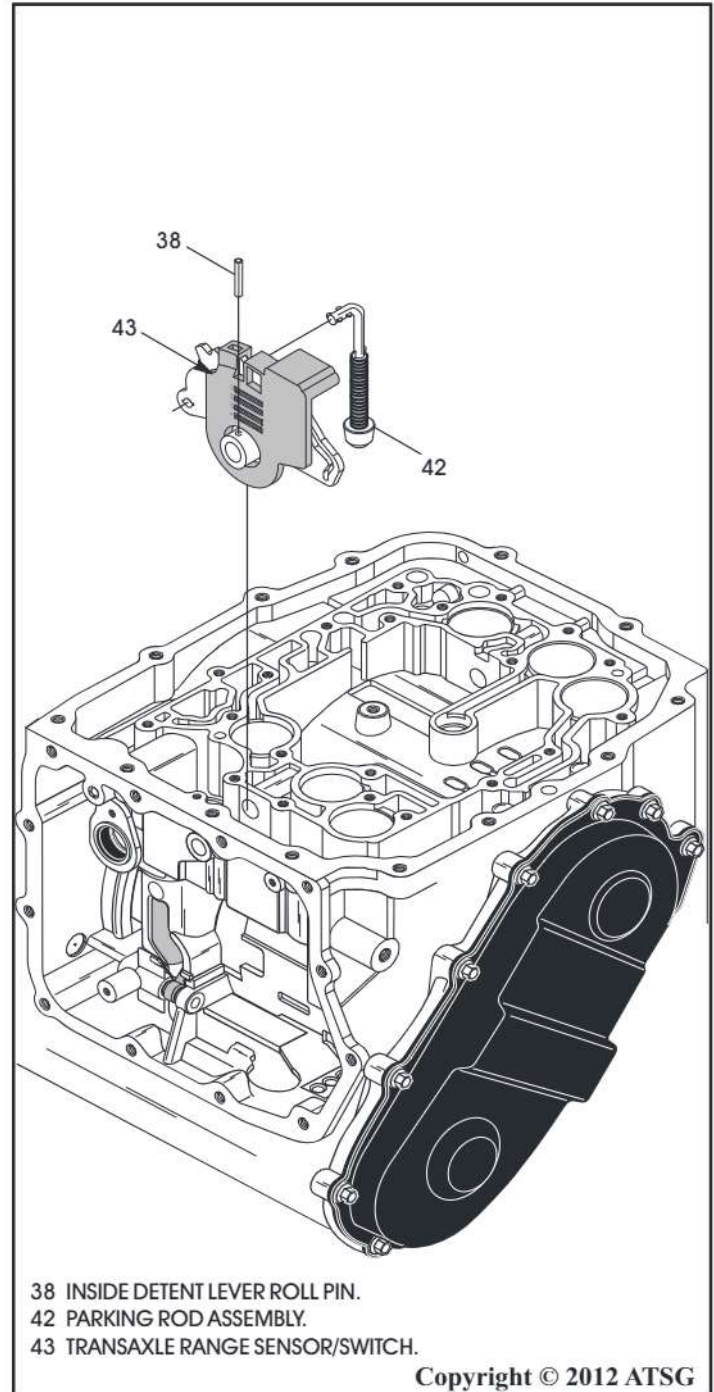

Figure 269
71. Install the parking rod into inside detent lever, as shown in Figure 269.
72. Install the Transaxle Range Sensor/Switch into case, as shown in Figure 269, and then feed the manual shaft through the inside detent lever and into case bore behind it.